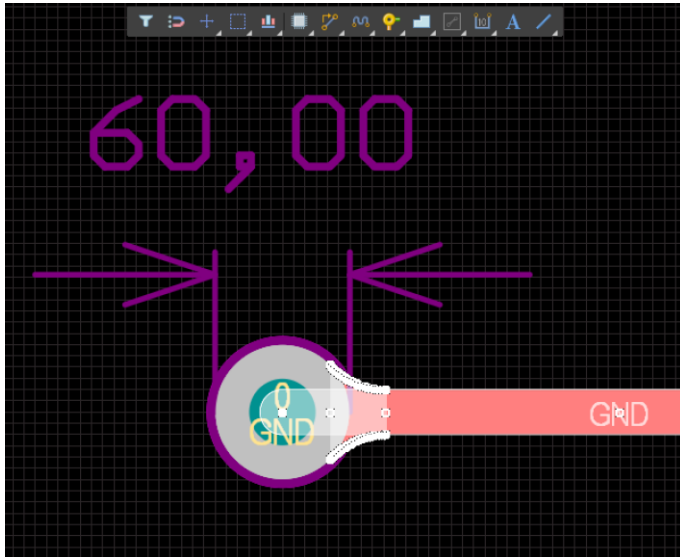

Figure 3. Via with teardrop
- Navigate to the Through Hole Pad example in the PcbDoc and observe if the Pad acquired teardrops around the Via. The trace should be connected as shown in Figure 3 below.